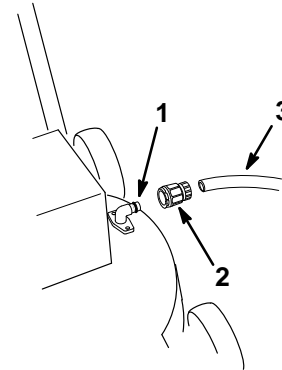

Figure 21
2. Attach a quick disconnect coupling (sold separately) to the end of the garden hose (Fig. 21).
3. Attach the coupling to the lawn mower washout fitting (Fig. 21).